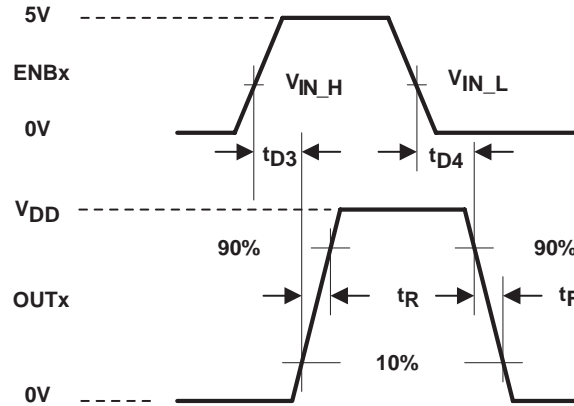

Figure 2. Switching Waveform for Enable to Output
4. See Figure 2.
The first circuit in Figure 2 is used to verify the current sink capability when the output of the driver is clamped around 5 V, a typical value of gate-source voltage during the Miller plateau region. The UCC27423 is found to sink 4.5 A at  $V_{DD} = 15\text{ V}$  and 4.28 A at  $V_{DD} = 12\text{ V}$ .